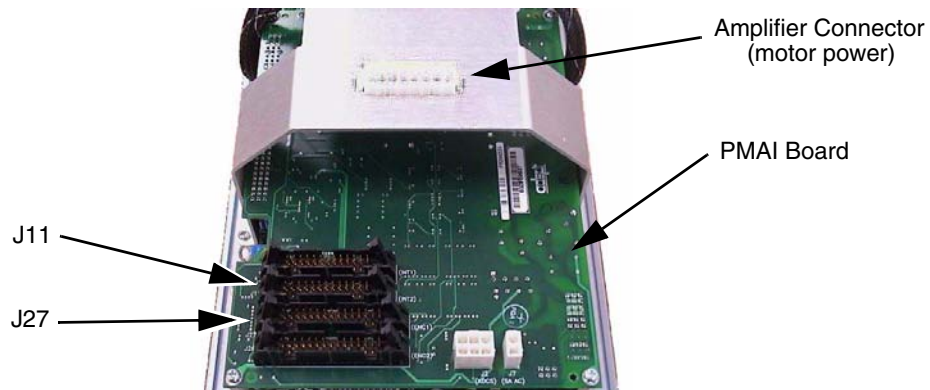

Figure 8-3. Connectors on AIB Chassis
6. Connect the white amplifier cable (motor power) to the amplifier connector located on the chassis bracket. See **Figure 8-3**.